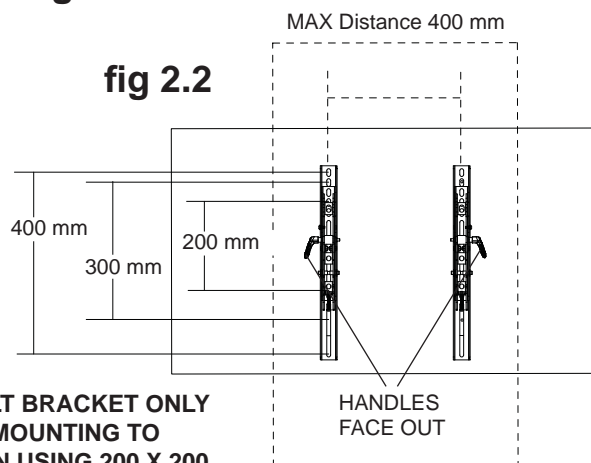
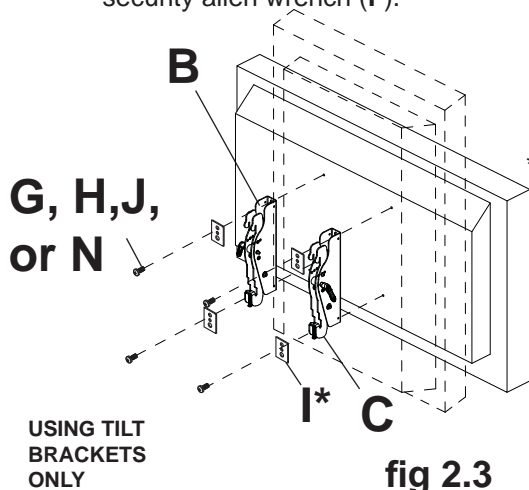

fig 2.2
fig 2.3
2 To prevent scratching the screen, set a cloth on a flat, level surface that will support the weight of the screen. Place screen face side down. If screen has knobs on the back, remove them to allow the tilt brackets to be attached. Place tilt brackets (B and C) on back of screen as shown in fig. 2.2. **Note:** Be sure to attach tilt brackets with handles facing outward as in figure 2.2. Align tilt brackets to screen mounting holes as recommended by chart below. Attach the tilt brackets to the back of the screen using the appropriate combination of screws, either M4 x 16 socket pin screws (N), M6 x 12 mm socket pin screw (G), M6 x 20 socket pin screw (H), or M8 x 15 mm socket pin screw (J) with multi-washers (I) as shown in figures 2.3 and 2.4. Verify that all holes are properly aligned, and then tighten screws using security allen wrench (F).